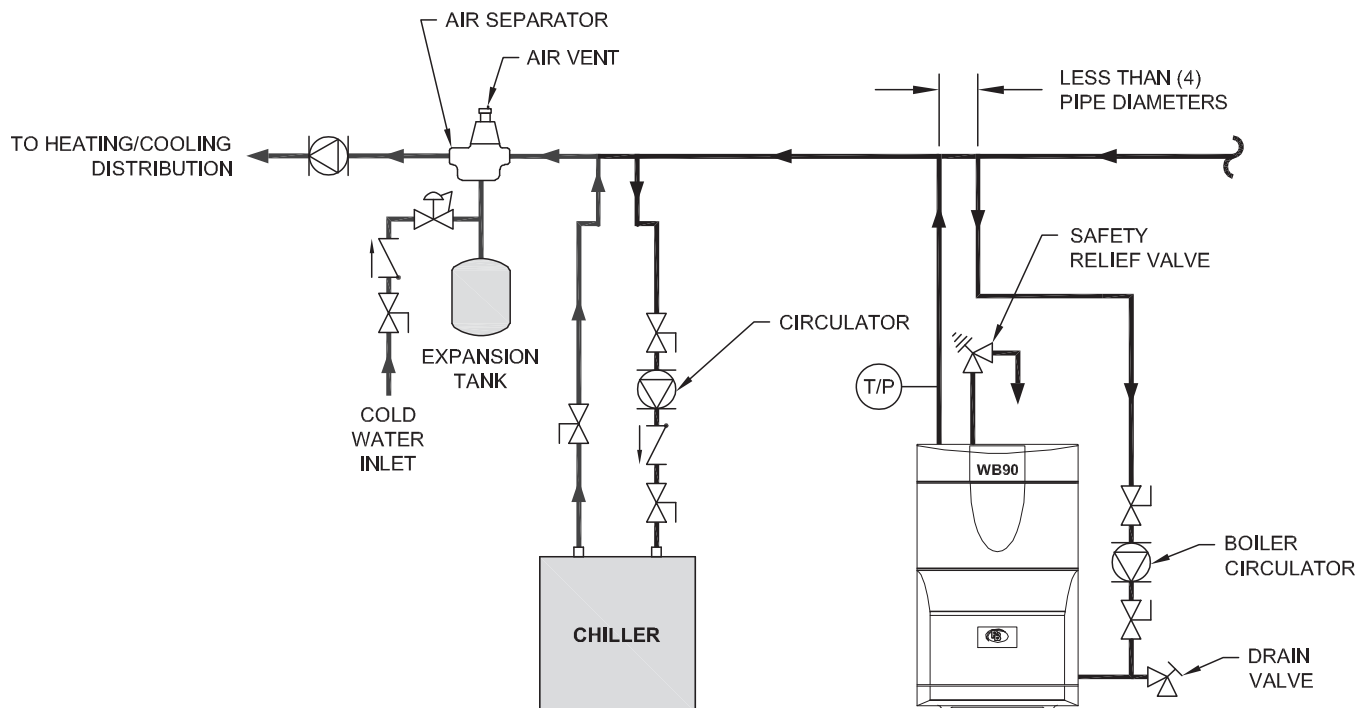

Figure 4.4: WB90™ Piped with a Chiller
1. If the WB90™ boiler is used in conjunction with a chilled medium system, pipe the chiller in a separate secondary loop as shown in Figure 4.4.